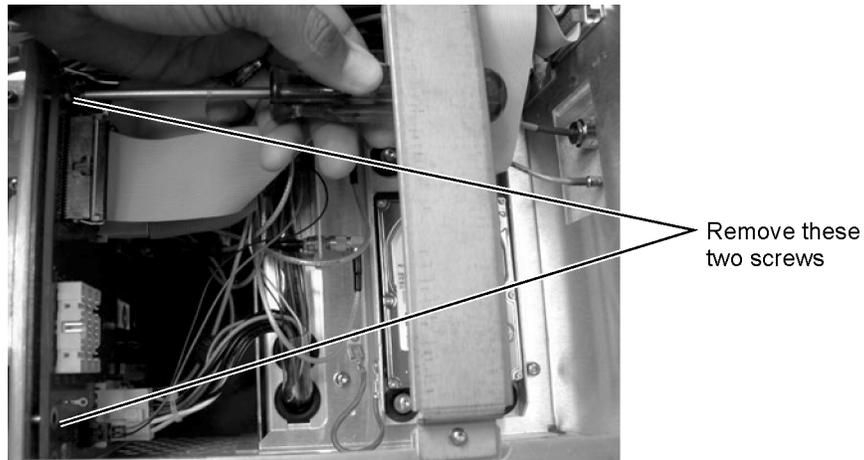

Figure 4-63. Disconnecting Screws from A6 Board
- 2 Use a T-10 TORX driver to remove the two screws that secure the assembly, as shown in Figure 4-63.